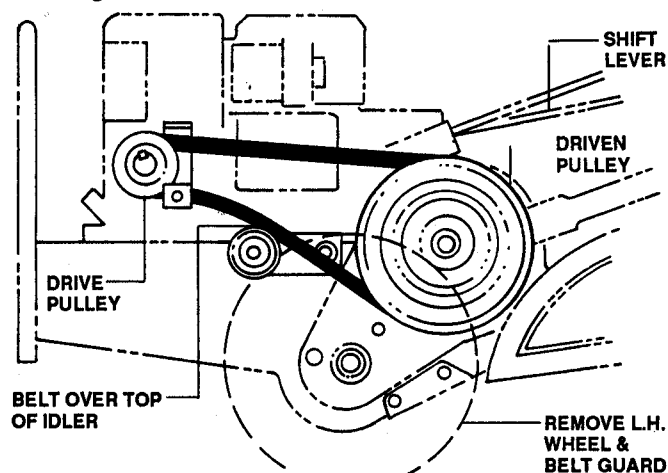

FIGURE 12
2. Remove two (2) 1/2" screws and nuts from guard.
4. Remove old belt and replace with new belt. Belt must be **OVER TOP** of **IDLER** and within **BELT GUIDE** for proper installation. See Figure 12.